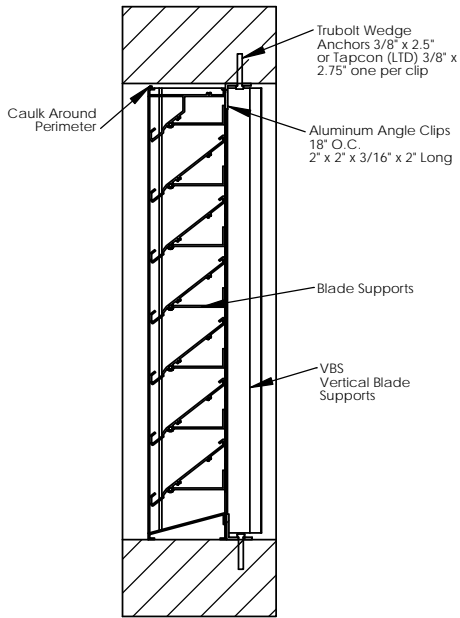

Fig. 1 - DC-638-1
1. **Anchoring into Concrete or Masonry:** See **Fig. 1 & 2**, Model **DC-638-1, DC-638-2** for detailed instructions.
2. Install louver into opening. Shim as required at each set of installation anchors using load-bearing shims. Max allowable shim stack to be  $\frac{1}{4}$ ". Use shims where space greater than  $\frac{1}{16}$ " is present. Fasten angle clips to DC-638-1 louver with two (2) # 12-14 x .88 TEK screws. Use  $\frac{3}{8}$ " Dia. Trubolt wedge anchors of sufficient length to achieve min. of 3" embedment into concrete or masonry with min. 3" edge distance.